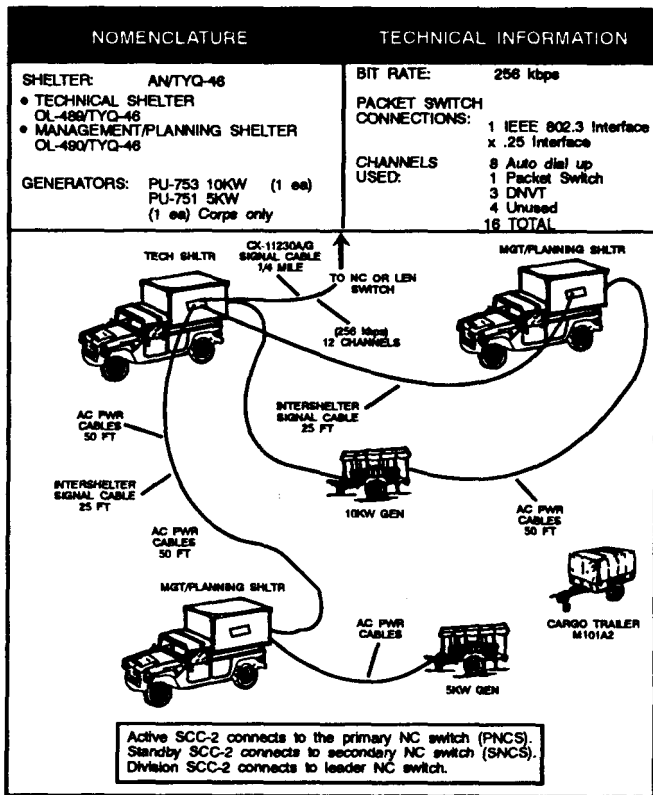

Figure 3-10. Typical corps SCC-2 configuration.
**Function.** The SCC-2 is a computer-assisted, automated tool that helps SYSCON cells manage the network. It consists of a technical shelter, management shelter, and planning shelter (corps only). It is collocated within the SYSCON and provides the information for network management. See Figure 3-10.